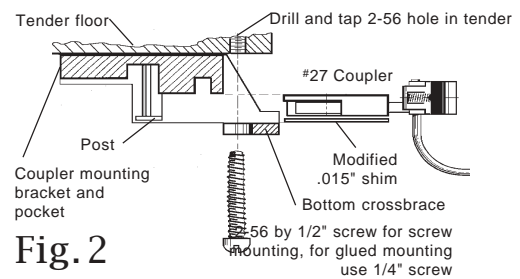

Fig. 2
6. Option 1: Use a #50 drill to drill a hole in the floor just in front of the bottom coupler crossbrace. Slip the drill bit between the crosspiece and the inside platform down to the floor. Hold it against the inside of the half circle of the crosspiece. Drill through the floor and the piece just under the floor. Tap the hole 2-56 through both pieces. See Fig. 2. This is the simplest and most versatile conversion. See Fig.3.